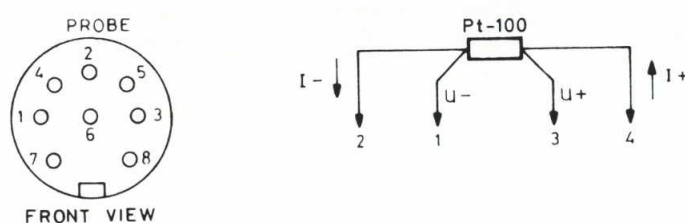

Fig. 16. Connector data of the PROBE input ($^{\circ}\text{C}$).
- In the $^{\circ}\text{C}$ function the Pt-100 probe PM9249 can be used. For connection of a Pt-100 element see fig. 16.